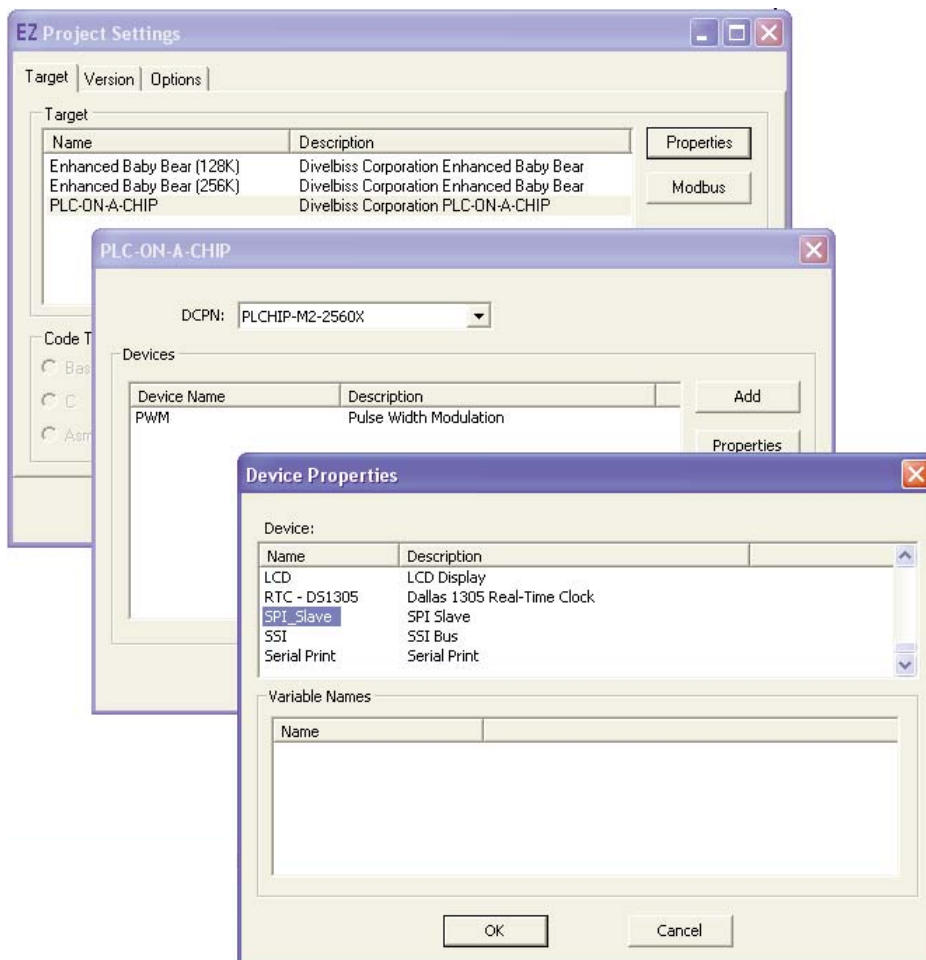

Figure 11.1
4. From the provided ADD dialog *Devices* list, select the SPI\_Slave. See Figure 11.1.